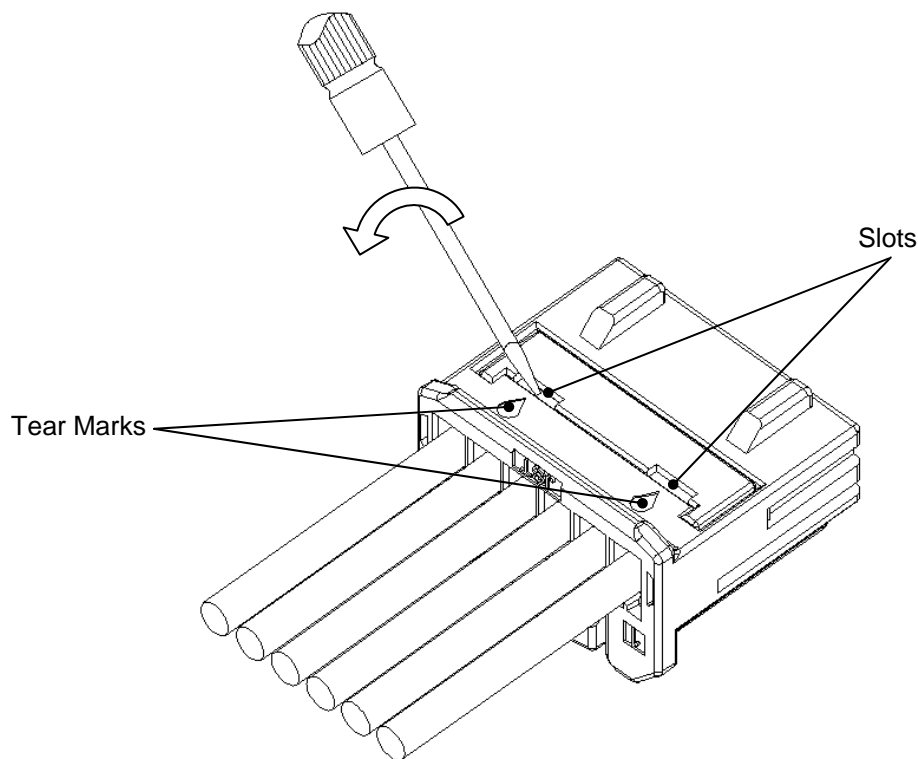

Figure 18. Tear Marks and TPA Release Slots (e.g. 6 positions)
- a) To return the TPA to its primary position, a flat 1.5mm width screwdriver is recommended. See Figure 18.
- b) Insert the screwdriver to one of the slots as indicated by the tear marks. Gently pry until the operator hears and feel the TPA release. Repeat the procedure for the other slot. See Figures 18 and 19.